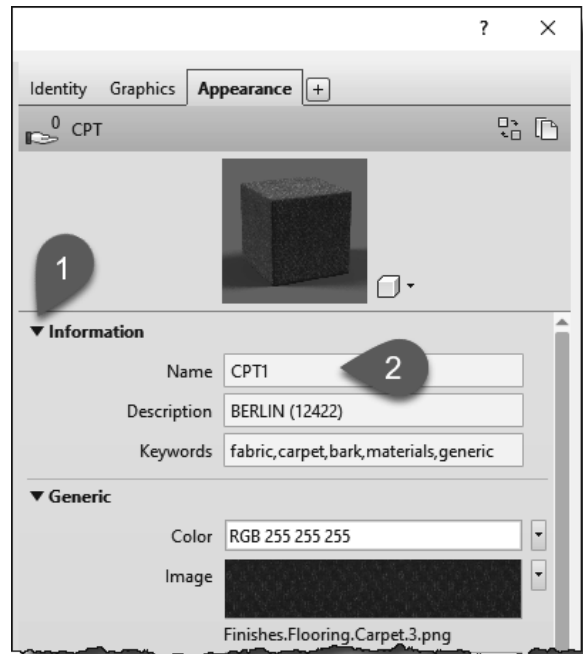

FIGURE 4-3.8 Editing an appearance asset
Notice, on the *Appearance* tab (Figure 4-3.8), that a PNG raster image is assigned to this material. You will use an image you just downloaded from the carpet manufacturer’s website and then edit your *Material* to use this new image. Keep in mind that anyone who might work on the project needs access to the image file location. So, in an office environment, you would not want to save this file to your local hard drive.
19. Expand the **Information** area and change the *Name* to **CPT1** (see Figure. 4-3.8).